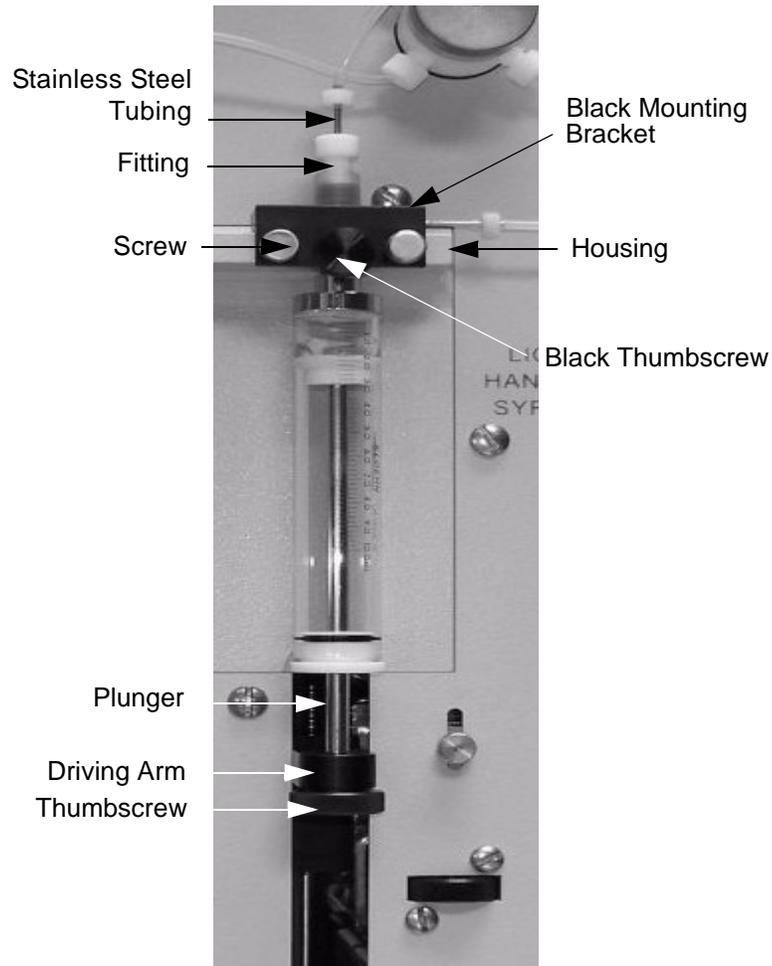

Figure 69. Syringe Screws and Mounting Bracket
- 1 Remove the two screws from the mounting bracket that secure the syringe to the housing, as shown in Figure 69.